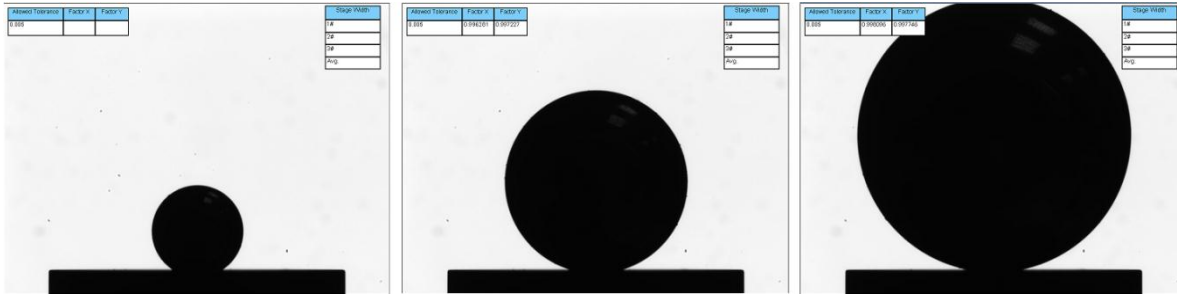
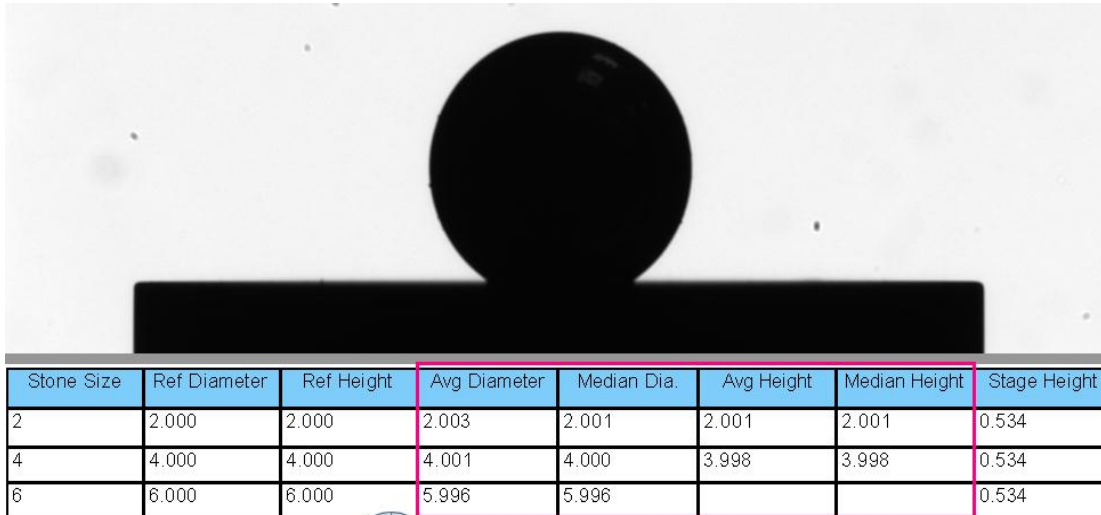

Fig 1.5
Fig 1.7
22. Repeat the measuring of the three balls as shown in figures 1.5 – 1.6, the four columns as shown in fig 1.7 need to have a white background. If one or more columns are colored red you will have to click the Stretch button and re-measure. Sometimes because of an error in the measurement it is sufficient to perform another measurement to get a result in the required range. In this case you do not have to perform another Stretch.